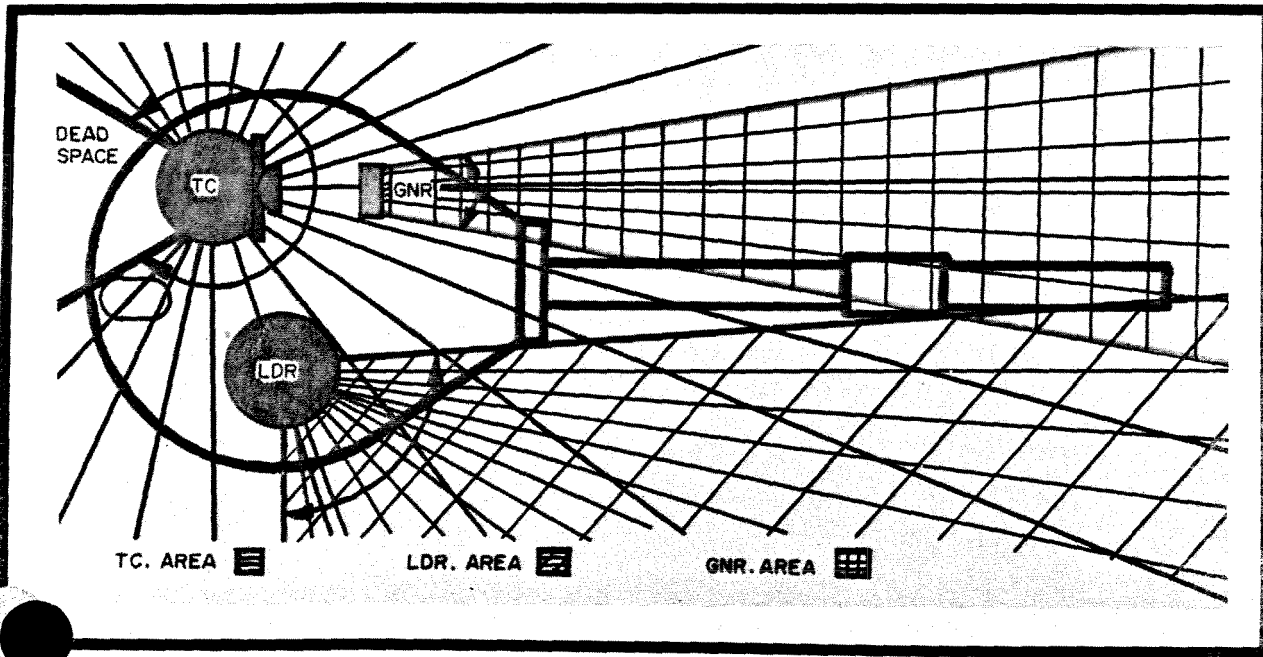

FIG. 3-113. CREW TARGET ACQUISITION SECTOR
a. Target Acquisition. Targets may be acquired by any crew member. The tank commander has the largest sector of responsibility for target acquisition as shown in Fig. 3-113).